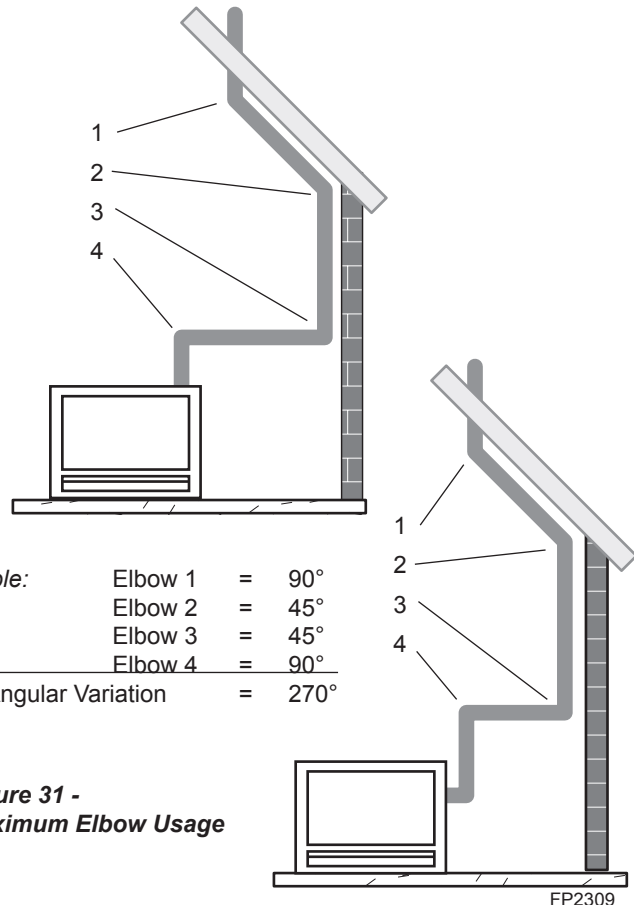

Figure 31 - Maximum Elbow Usage
- Two sets of 45° elbows offsets may be used within the vertical sections. From 0 to a maximum of 8' (2.5 m) of vent pipe can be used between elbows. *Figure 31*
- The maximum angular variation allowed in the system is 270°. *Figure 31*